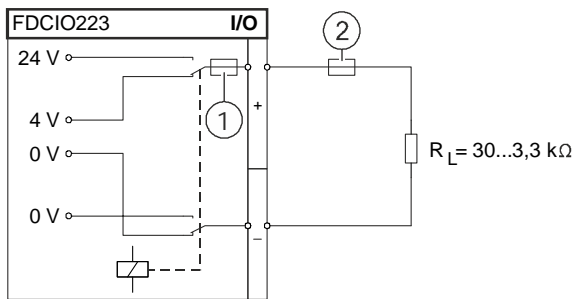

Fig. 8
- Fig. 8 Control line featuring identical-polarity monitoring